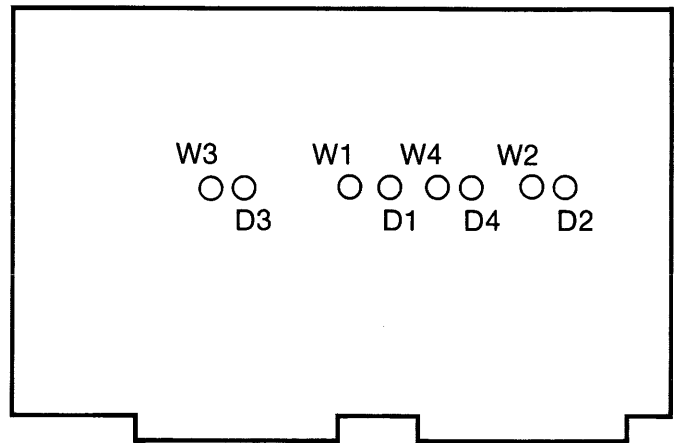

Figure 5.9 Adjustments
4. Repeat procedure for  $\emptyset 2$ ,  $\emptyset 3$ , and  $\emptyset 4$ . See Figure 5.9 and Table 5.2.